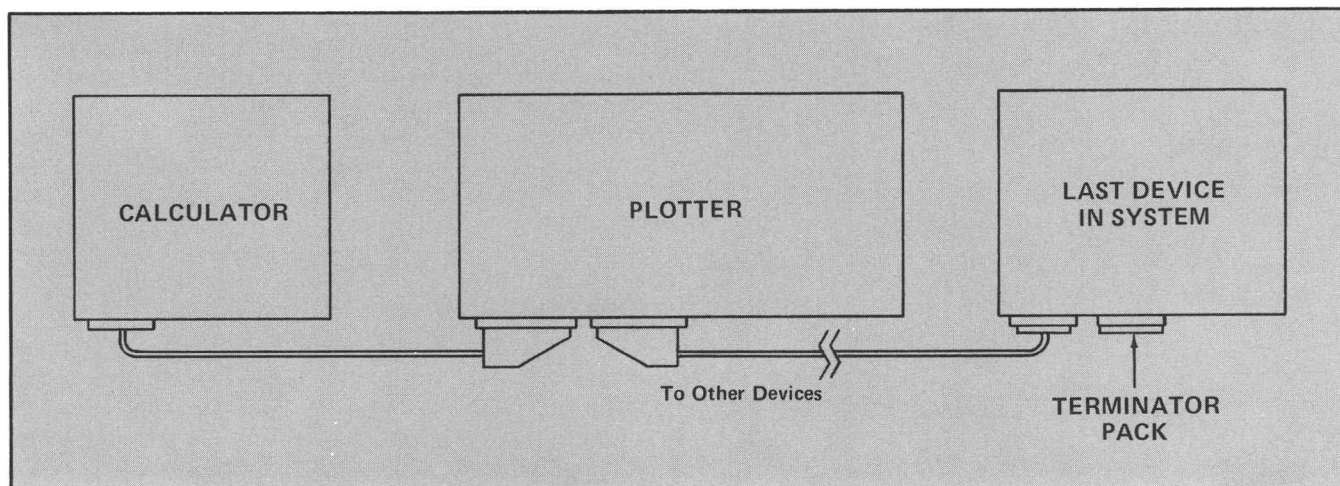

**Fig. 1-3. Plotter connections.**
3. Connect the other end of the cable into either of the plotter connectors, again taking care to align the tabs on the cable with the slots in the connector guide. On the plotter, one guide has slots on the upper side and the other has slots on the lower side (Fig. 1-3).
4. Terminate the plotter's unused connector by installing the terminator pack (Figs. 1-3 and 1-4) unless calculator signals are being looped through the plotter to other devices in the system. If more than one device is being connected in a loop-through system, the terminator pack must be installed on the output of the device electronically farthest from the calculator.